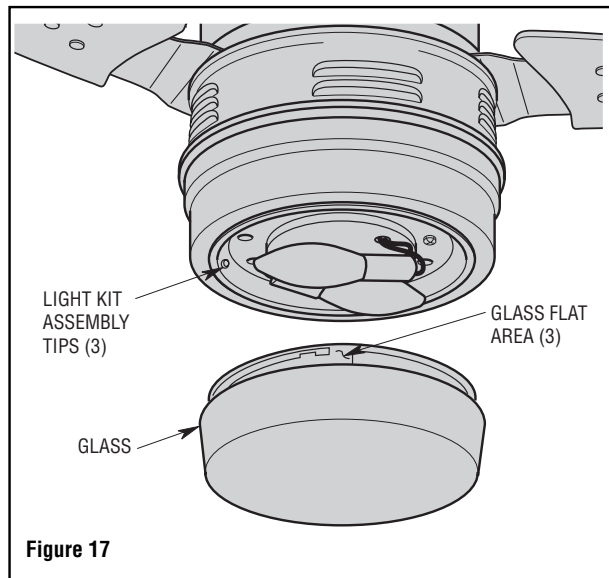

Figure 17
2. Place the glass into the opening in the light kit assembly, aligning the three flat areas on the top edge of the glass with the three light kit tips on the light kit assembly and turn the glass bowl clockwise until it stops (Figure 17).